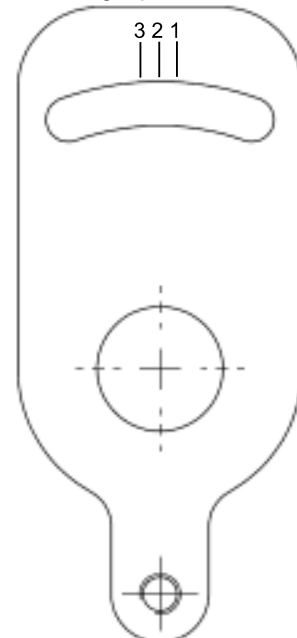

fig. 5a
Please make sure, that the material does not project too much into the machine. Otherwise it would get in contact with the wedge. Now close the machine by pushing the actuating lever (pos. 1, fig. 1), until it snaps into the locking bolt. Loosen the screw on the hot wedge positioning (pos. 7). Set the desired thickness of the geomembrane according to the marks on the metal (fig. 5a). Please check, whether the 20mm stripes now can easily get inserted above and below the hot wedge (distance 2 and 3) and make sure that the wedge does not get into contact with the actuator rolls.